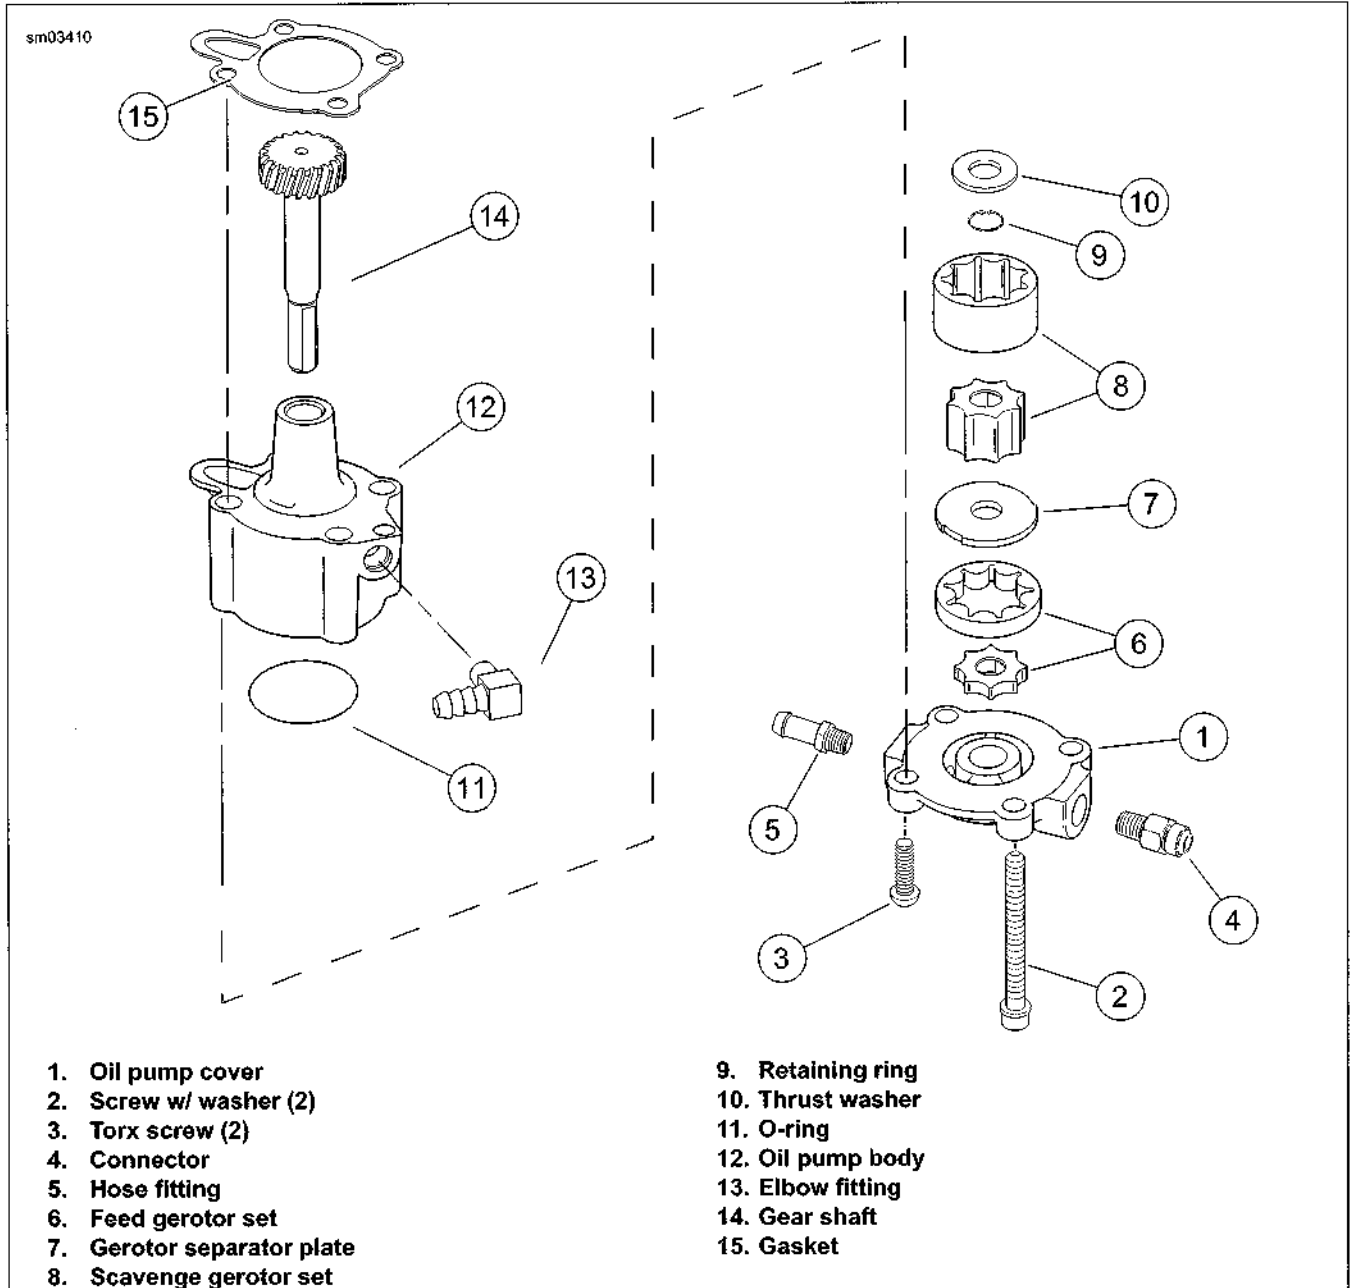

Figure 3-105. Oil Pump
See Figure 3-105. The oil pump is designed to be removed as a complete assembly by removing the two long screws (2) at opposite corners of the pump. The other two screws (3) hold the pump together so that it may be removed and installed as a unit.
- See Figure 3-105. Carefully remove two screws (2) that secure oil pump to crankcase. Pump will drop with screws removed. Discard mounting gasket (15).
- See Figure 3-105. Remove two Torx screws (3). Lift cover (1) off body (12). Remove and discard O-ring (11).
- Slide both pieces of feed gerotor set (6), separator plate (7) and both pieces of scavenge gerotor set (8) off gear shaft (14).
- Remove and discard retaining ring (9). Remove thrust washer (10) and gear shaft.
- See Figure 3-105. Install gear shaft (14) through oil pump body (12). Position thrust washer (10) over end of shaft. Install **new** retaining ring (9) into groove in shaft.
- Insert inner gerotor of the scavenge gerotor set (8) over gear shaft.
- Position separator plate (7) into case and line up slots on perimeter with tabs inside oil pump body.
- Place feed gerotor set (6) over gear shaft.
- Install a **new** O-ring (11) into groove in oil pump cover (1). Place cover onto pump body. Install two Torx cover screws (3). Tighten to 70-80 in-lbs (7.9-9.0 Nm).
1. See Figure 3-105. Place **new** mounting gasket (15) in position.
2. Secure pump to crankcase with two screws (2). Tighten to 125-150 **in-lbs** (14.1-16.9 Nm).